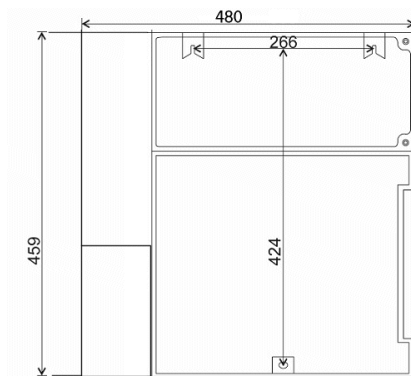

Figure 7
2. Drill the mounting holes as specified in figure 7.